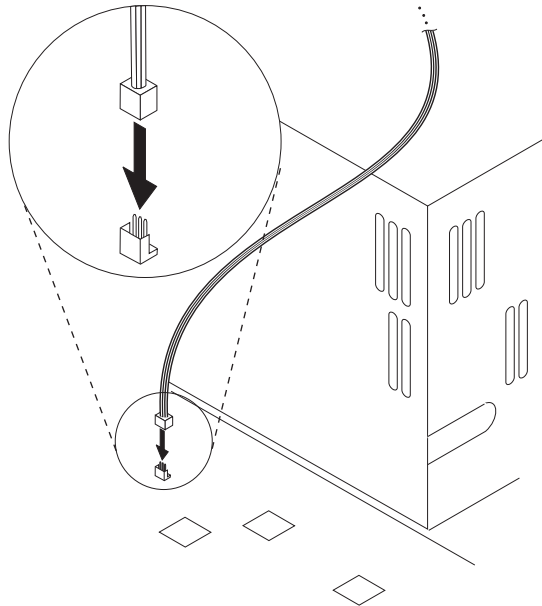

Figure 1. Connecting the Wake on LAN cable to the system board (3-pin connector)
1. Connect either end of the cable to the system board as shown in Figure 1.